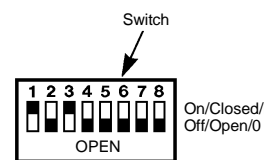

Fig.5
2. Set bit switch 1 "ON". Set all other bit switches to "OFF" - see fig. 5.
Switch settings as shown in Fig. 5.